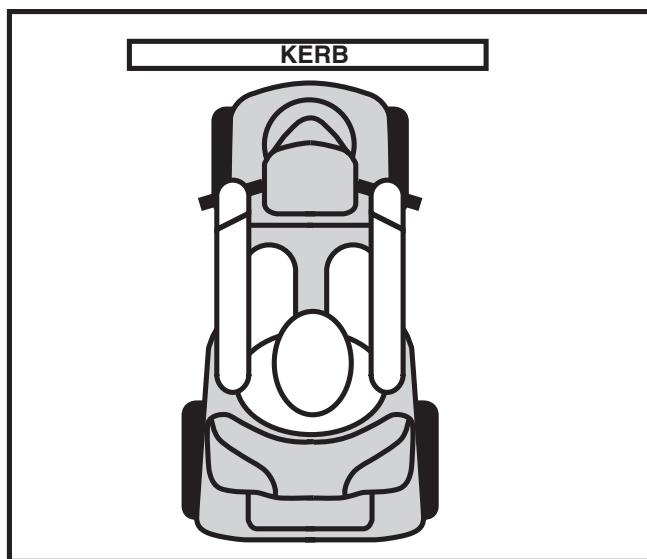

Figure 3. Correct Kerb Approach
**WARNING! Be sure your scooter is travelling perpendicular to any kerb you may be required to ascend or descend. See figures 3 and 3A.**